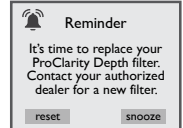

Figure 15.0e
24. **ProClarity Depth Filter Reminder:** This message will appear when the filter reminder time has expired (Figure 15.0e). The ProClarity Depth filter must be replaced.